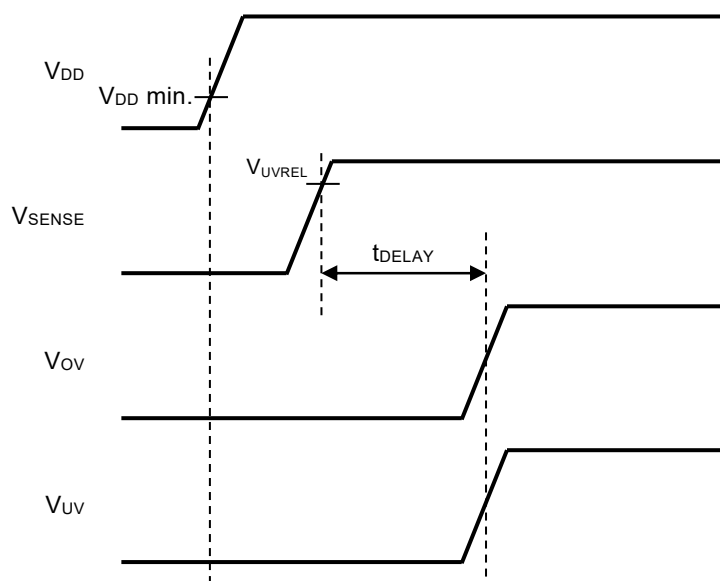

Figure 27
- (1) Order of VDD pin and SENSE pin (Refer to **Figure 27**)
- (2) VDD pin and SENSE pin at the same time